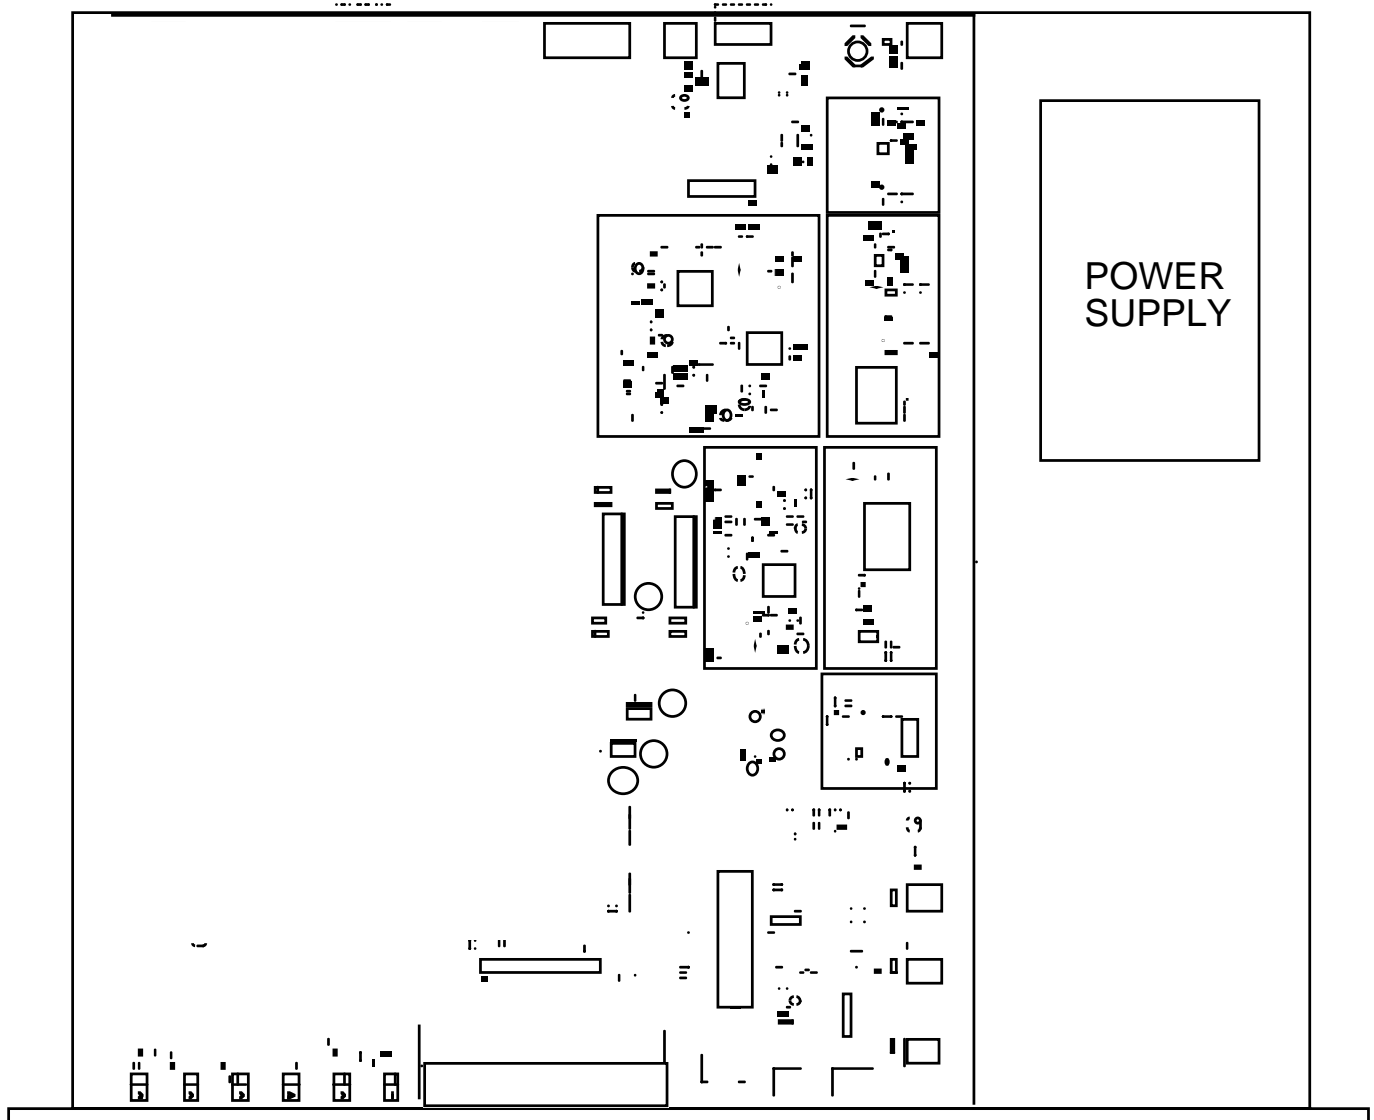

FIGURE 2.1 2083-1012 Mechanical Assembly
2.1 Mechanical - The 2083-1012 consists of one RF/Controller PCB housed in a 1 RU (1 3/4 inch high) by 16 inch deep chassis. A switching, ± 12 , +24, +5 VDC power supply provides power for the assemblies. The 2083-1012 can be secured to a rack using the 4 holes on the front panel. Figure 2.1 shows how the 2083-1012 is assembled.